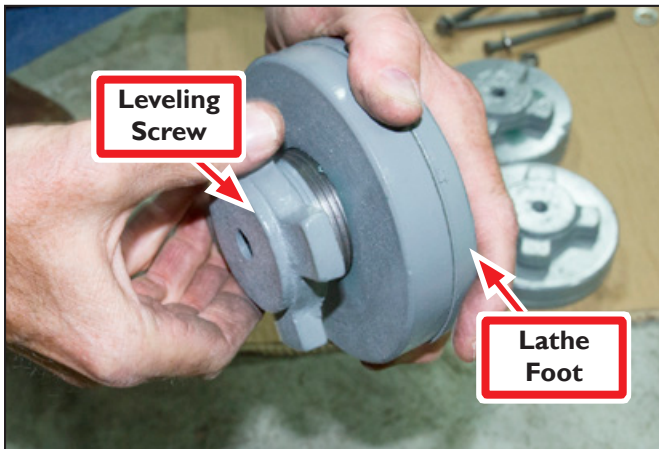

Figure 2.8
1. Replace the stock coolant pump with a 230 VAC compatible pump (Hi-Quality 1/8 HP Coolant Pump Upgrade Kit, PN 33216), and change the Voltage Setting Switch on the controller to 230 VAC (see Figure 2.8).
1. Unscrew Leveling Screw on each Lathe Foot until close to full height (see **Figure 2.8**); apply a dab of grease on threads.